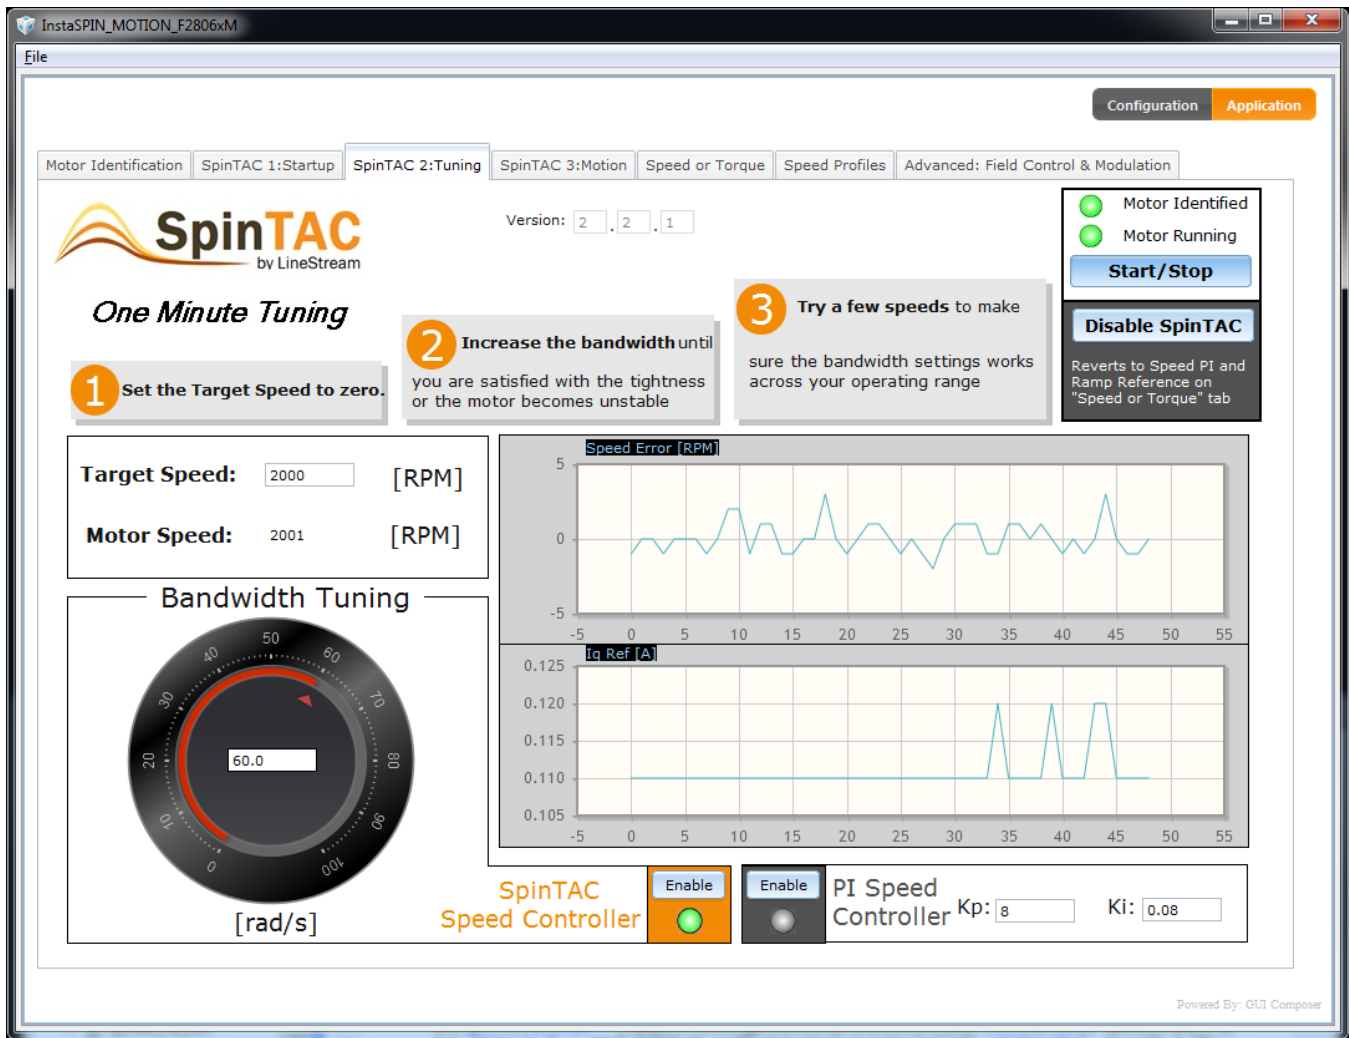

Figure 2-4. InstaSPIN-MOTION GUI SpinTAC 2:Tuning Tab
Step 4. Tune the disturbance-rejecting speed controller (Figure 2-4) This replaces the speed controller in Step 2.